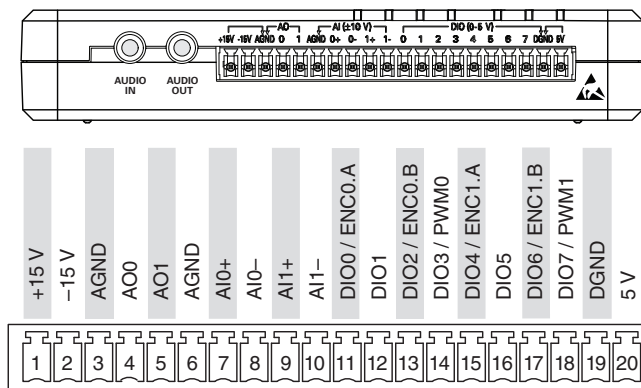

Figure 02.14: myRIO Connector C (from Instruments \(2013\)).
3. We will be using the MSP connector named C on the side of the myRIO shown in Figure 02.14.
4. With jumper wires, connect the analog output ground channel AGND (3) to the ground of your circuit (choose ground to be one of the "free" ends of the series resistors).
5. Connect the analog output channel AO1 (5) to the opposite end of the series resistors such that the analog voltage supplied via AO1 and